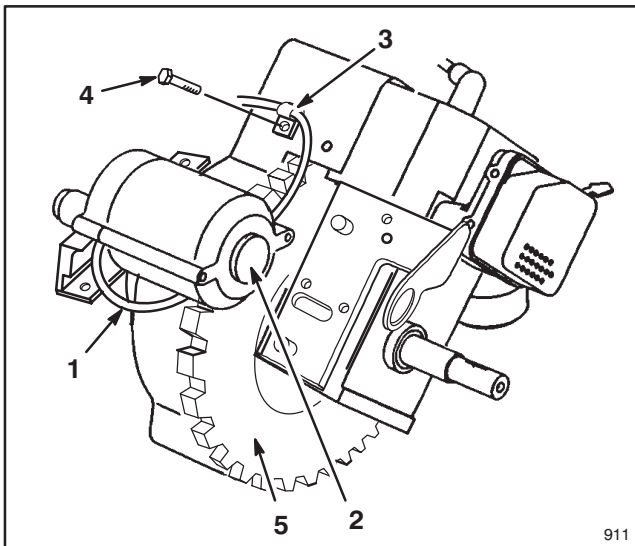

Figure 10
12. Before installing new motor, route electrical wiring **under** motor as shown in Figure 10.
13. Slide boss on right end of motor (Fig. 10) into hole in bracket and then seat left side of motor onto bracket. Secure motor with (2) two screws.
14. Fasten wiring cable to engine with R-clamp and screw (Fig. 10), making sure wire routing clears the flywheel.